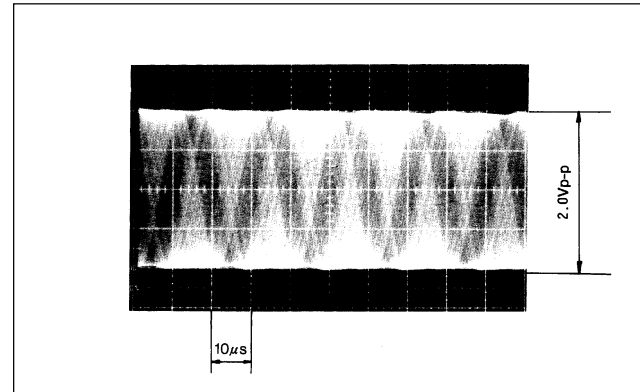

Fig. 4-10
- ⑥ Adjust the RV2 volume again so that the sine wave amplitude is between 1.9 Vp-p and 2.1 Vp-p as shown in Fig. 4-10. Fig. 4-10 shows the ideally adjusted condition.